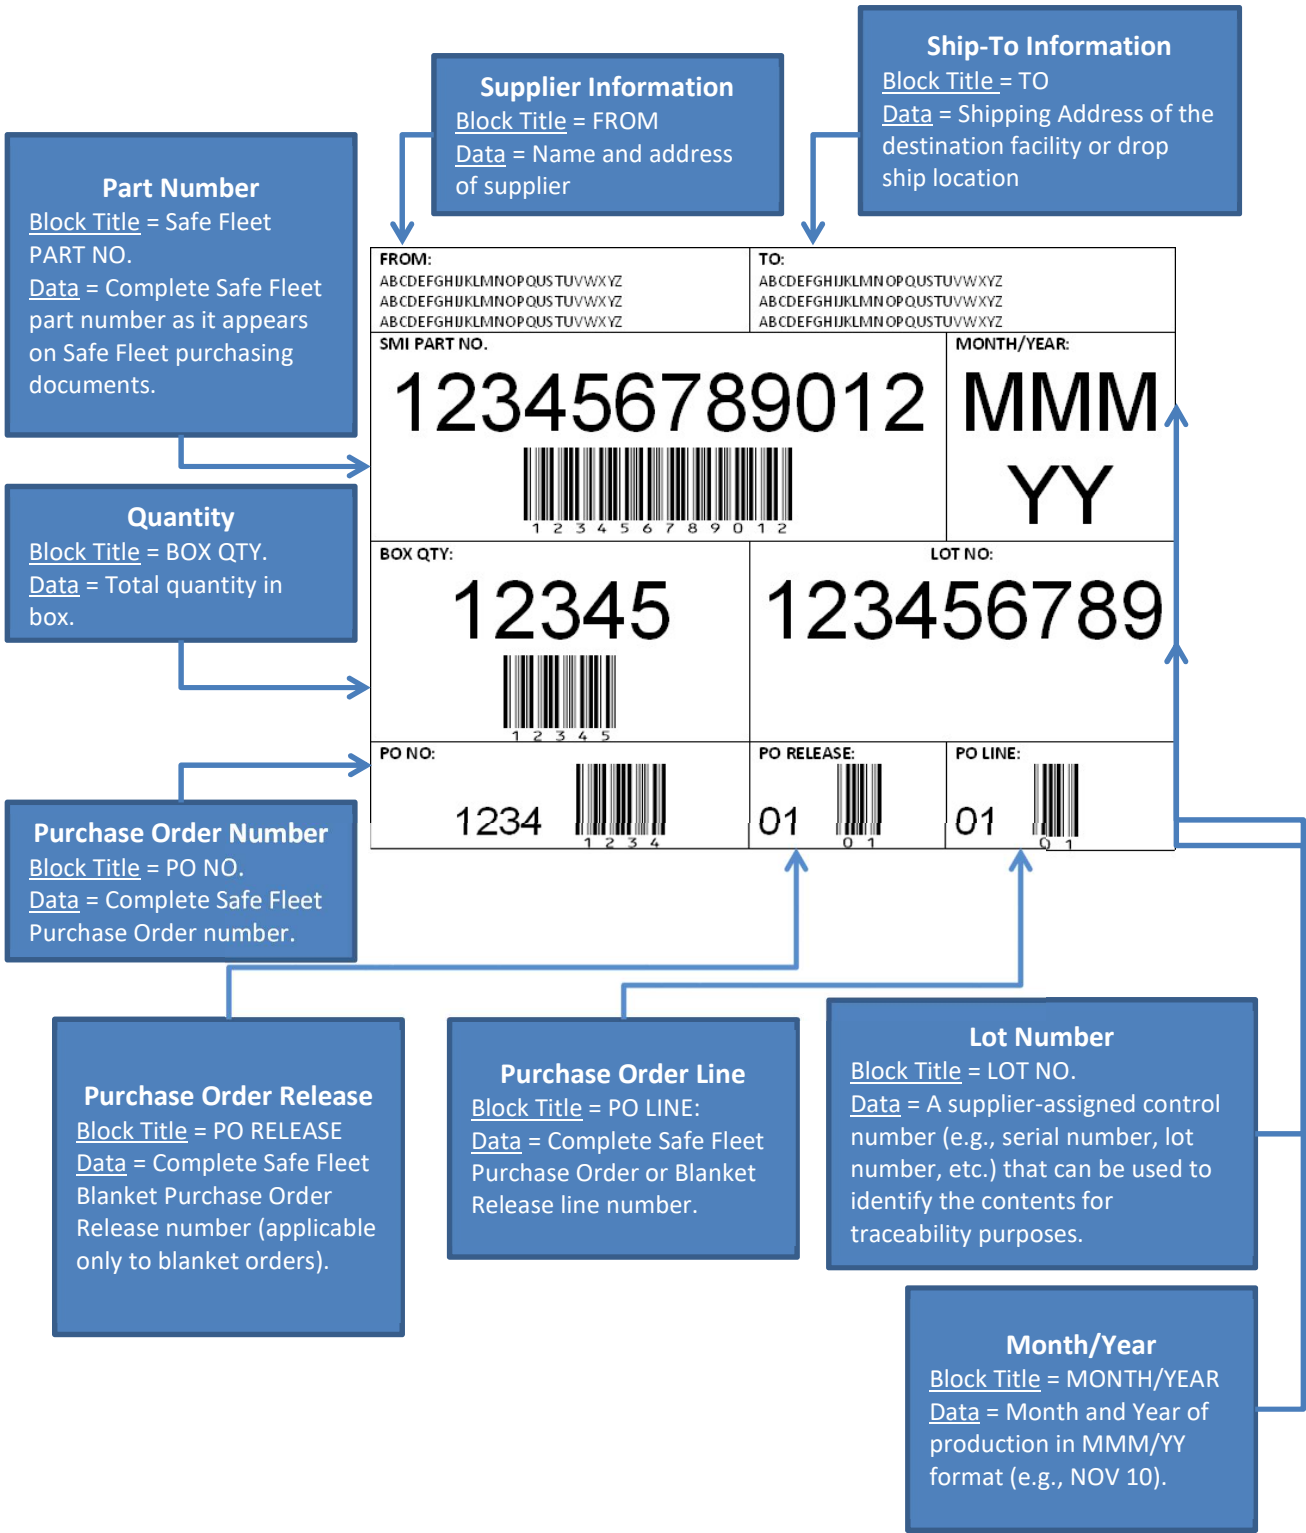

Figure 1
- 3.2 Each container of product shipped to Safe Fleet shall be labeled with a Box Label as defined below (refer to Figure 1). Under no circumstances shall multiple part numbers be contained in a single box.
5.1 Box Label (refer to Figure 1 below):